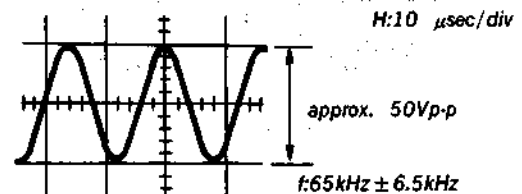

Fig. 5-30. Bias Oscillator Frequency Check
| Specified Value | $65 \pm 6.5\text{kHz}$ (See Fig. 5-30) |
- (1) Input is Nore-signal in record mode
- (2) Connect the frequency counter to pin ③ of CN901 Confirm that the oscillation frequency is $65\text{kHz} \pm 6.5\text{kHz}$ (See Fig. 5-30) (Bias Oscillator Frequency)
- (3) Connect the oscilloscope to Pin ⑱ of IC902 and confirm that bias leak is below 0.4Vp-p .